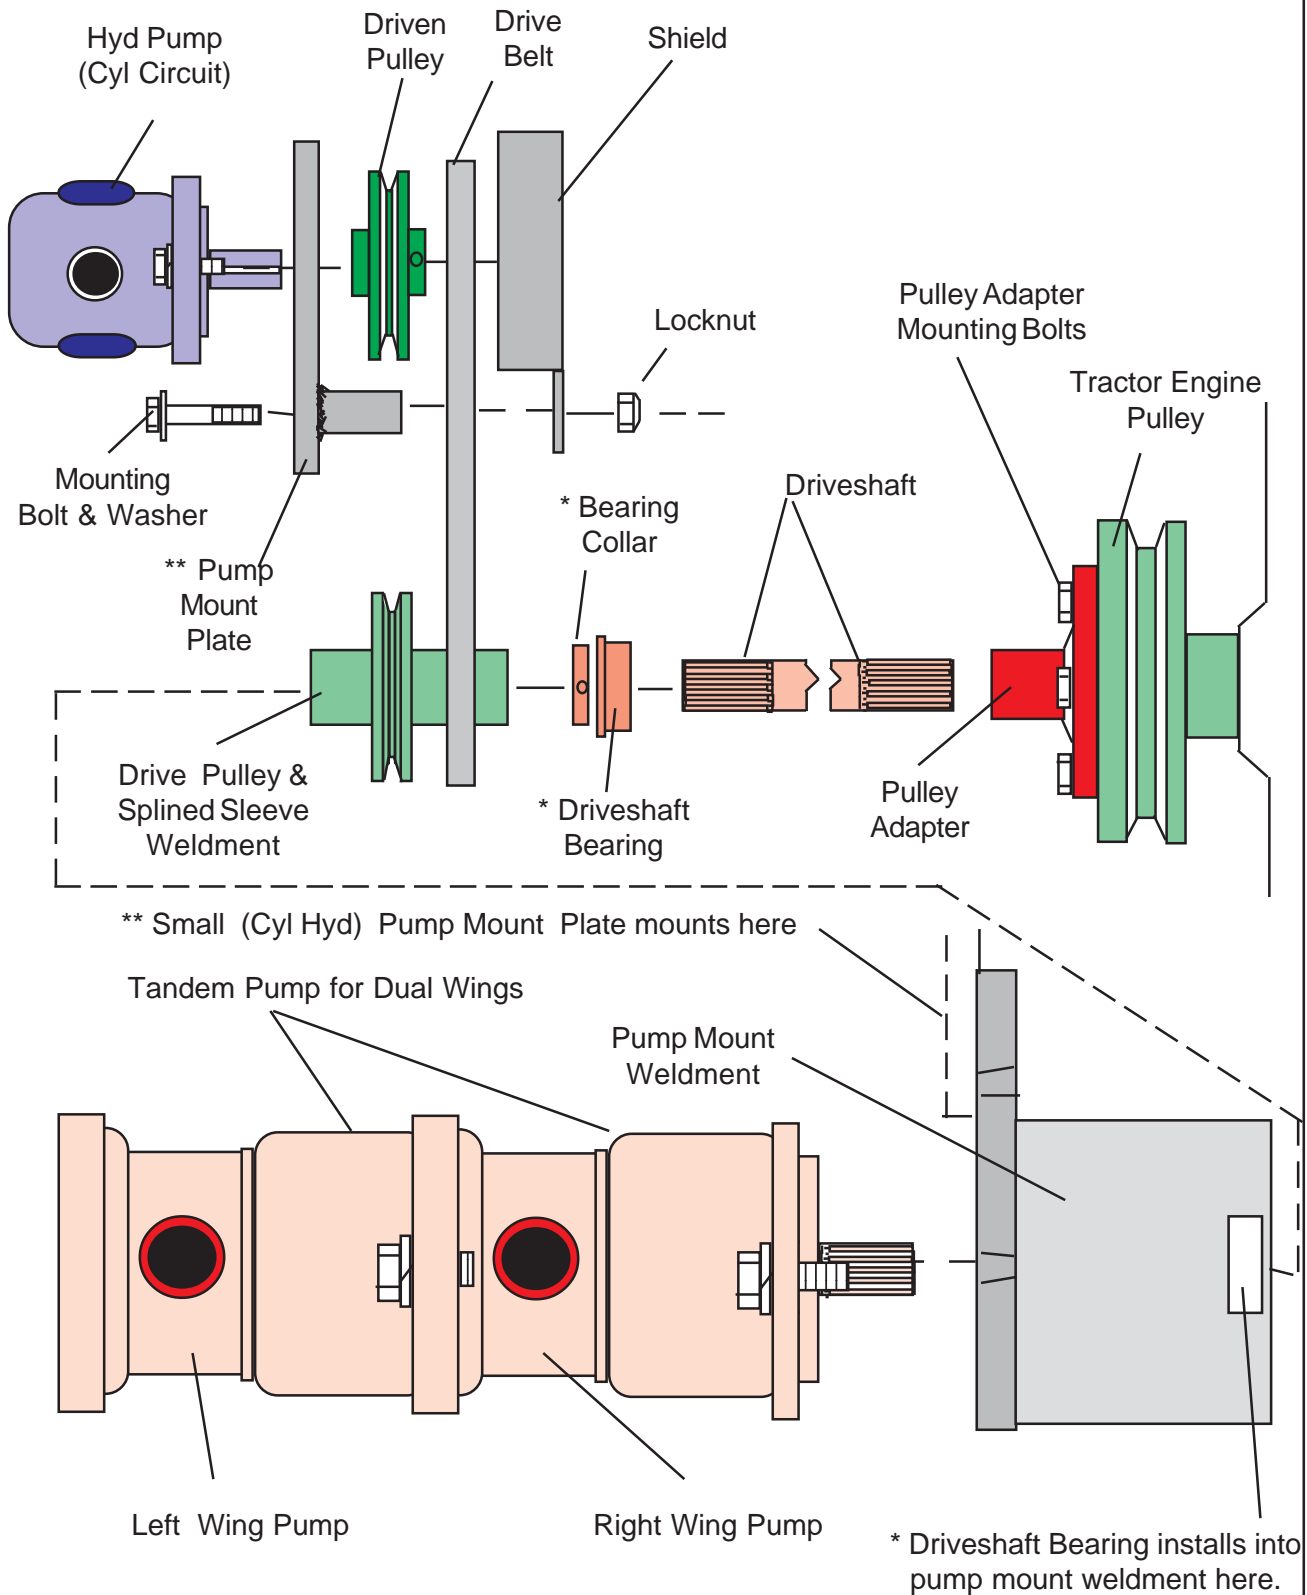
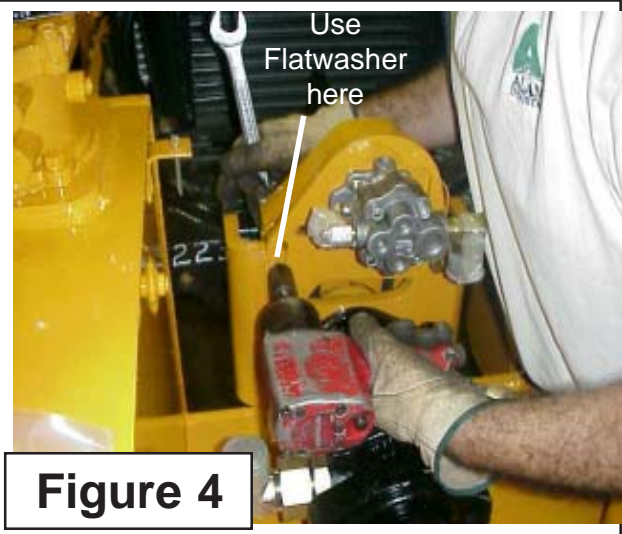

Figure 1
Figure 4
Remove Components from Tractor. There are items that must be removed from tractor that will not be used before the mainframe can be mounted. On each side of the tractor there heavy mounting lugs that are bolted to the tractor frame. One on the left hand and one on the right hand side. The steps on the left and right side has to be removed. (See Figure 1) The Battery Relocation Kit will have to be installed, with this modification the battery will no longer swing completely out. To remove Battery after modification is done will best be done by two people as battery is heavy and will have to be lifted out. Before beginning any work on Tractor the Negative Ground Battery cable needs to be disconnected from the battery to protect the electrical system. Before reconnecting Battery cable check all connections that you have made and make certain all components of the tractor are in the OFF position.
1. Install the Frame Mounts Rails. There is a LH and a RH Frame Mounting rail. These will bolt to the front of the tractor with three mounting bolts on each side. When Starting the three mounting bolts it will work best to install the RH Side (See Figure 2) and the LH Side (See Figure 3). Do not tighten the three mount bolts on each side, this will allow you to align mounting bolts easier. Move to the rear of the tractor under the rear axle, check the threaded bolt holes in the rear end housing. Remove any plugs or bolts that will be in the way. (See Figure 4 & 5)
1. Gain Access to Tractor Engine. Raise the hood of the tractor to reveal the tractor engine (See Figure 2). Remove the engine guards on the left hand side of tractor (See Figure 3). This will allow you access to the Tractor Crankshaft Pulley. (See Figure 1). Remove the plate under After cooler which will make installing driveshaft easier.
2. Bolt Pulley Adapter to Engine Crankshaft Pulley. Bolt the pulley adapter to the to the crankshaft pulley with the supplied bolts. Make certain the bolts used are not to long or to short (See Figure 1).
4. Install pump Mount Weldment. Bolt the pump mount weldment to the front bolster of the tractor. The driveshaft will be sicking through the hole in the pump mount weldment. (See Figure 1)
5. Install Driveshaft Bearing & Bearing Collar. Slide the bearing onto the driveshaft until the bearing is seated into the inner hole of the pump mount weldment where the driveshaft comes through. Slide the bearing collar onto driveshaft until seated against bearing. Making certain that driveshaft is seated into crankshaft pulley adapter tighten setscrew for bearing collar. (See Figure 1)
8. Install Pump Retaining Bolts. Install the two bolts that retain the Left & Right wing pump(s) to the pump mount weldment and tighten them. (See Figure 1)
9. Install Small Pump (Hyd Cyl System). The Hyd Cyl operate from a small pump bolted above the tandem pump. (See Figure 1) Bolt the Pump onto the Small Pump Mount plate with the two mounting bolts. Install the driven pulley onto the pump, make certain to install the key in pump shaft. DO NOT tighten the setscrews in pulley until later. Slide the Drive Belt onto driven pulley and align the pump mount plate with the holes in the pump mount weldment, use Flat washers on bolts to mount to pump mount weldment (See Figure 4). DO NOT Tighten these bolts yet.